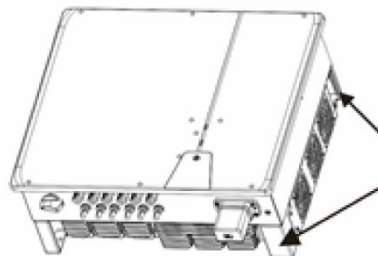

Fig. 3.2: Lifting position (right side)
- 1 Lift the device using the grip recesses (see Fig. 3.2). Pay attention to the centre of gravity!